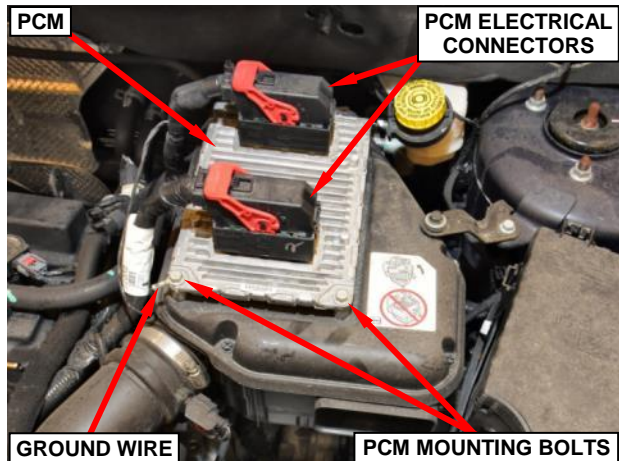

Figure 7 – PCM
17. Unlock and disconnect the electrical connectors from the Powertrain Control Module (PCM) (Figure 7).
18. Remove and save the three PCM mounting bolts. Note the location of the PCM ground wire for later reassembly (Figure 7).
19. Remove and save the PCM (Figure 7).